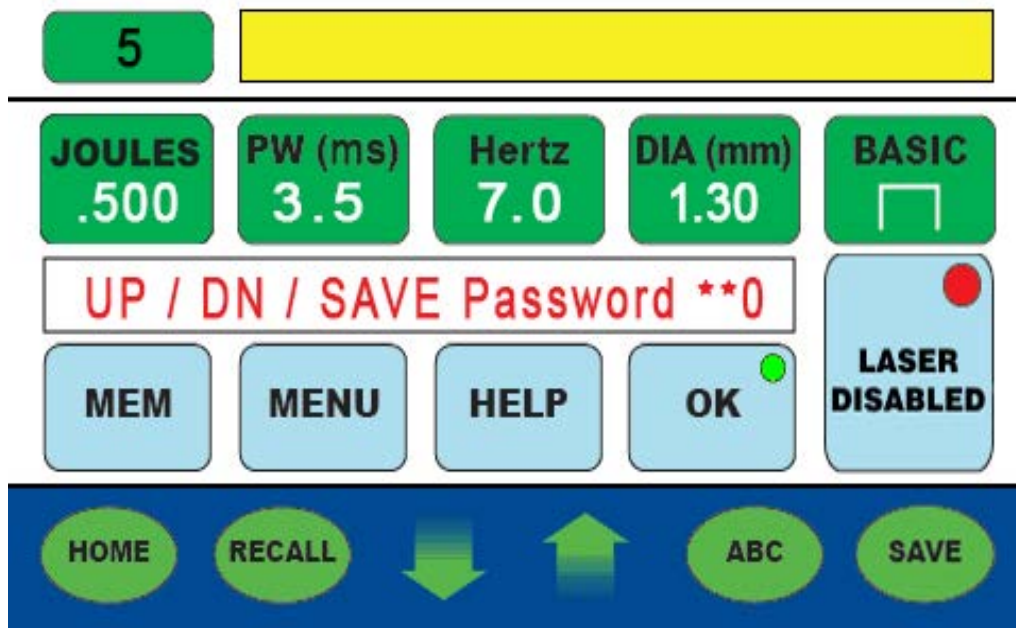

Figure 65
4. Press the **menu button** on the password screen; a (*) is inputted into the field for the second number. Now, press the **up arrow** to assign the third digit; the last digit, “8,” will begin blinking (**Figure 65 on page 118**).